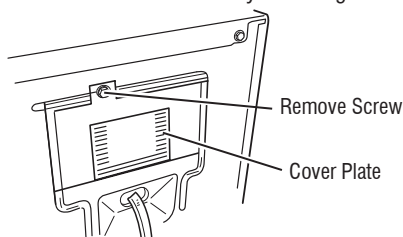

Figure 3 - Remove the cover plate (appearance may vary)
2. Remove the cover plate from the top right corner of the back of the dryer. See figure 3.
2. Remove the cover plate from the top right corner of the back of the dryer. See figure 3, page 12.